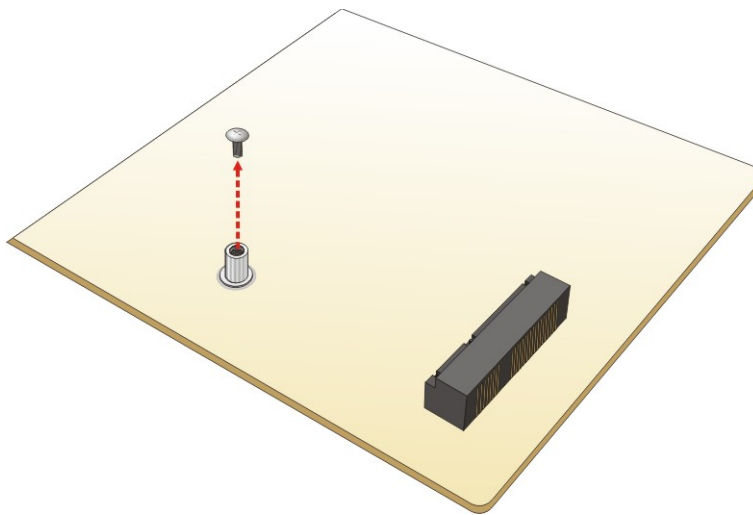

Figure 4-7: Removing the Retention Screw
Step 2: Remove the retention screw. Remove the retention screw as shown in **Figure 4-7**.